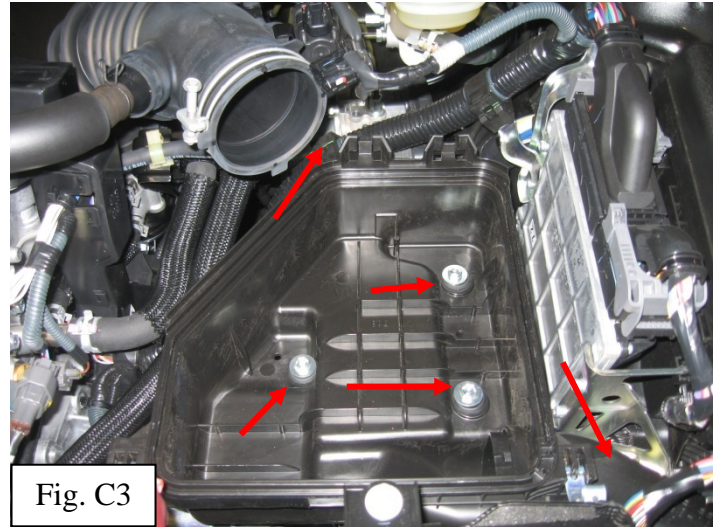

Fig. C3
- i. Use a 10mm socket, 10" extension and 1/4" drive ratchet to remove 3 OE bolts that secure air filter inlet base. (Fig. C3)
- ii. Lift up the tab for the wire harness tie. Remove the harness and tie from the inlet base. (Fig. C3).
- iii. Remove air inlet pipe from lower base. (Fig. C3)
- i. Reinstall the 3 OE bolts/washers that secure the air filter inlet base. (Fig. C3)
- iii. Reconnect the wire harness and clip to the inlet base. (Fig. C3).